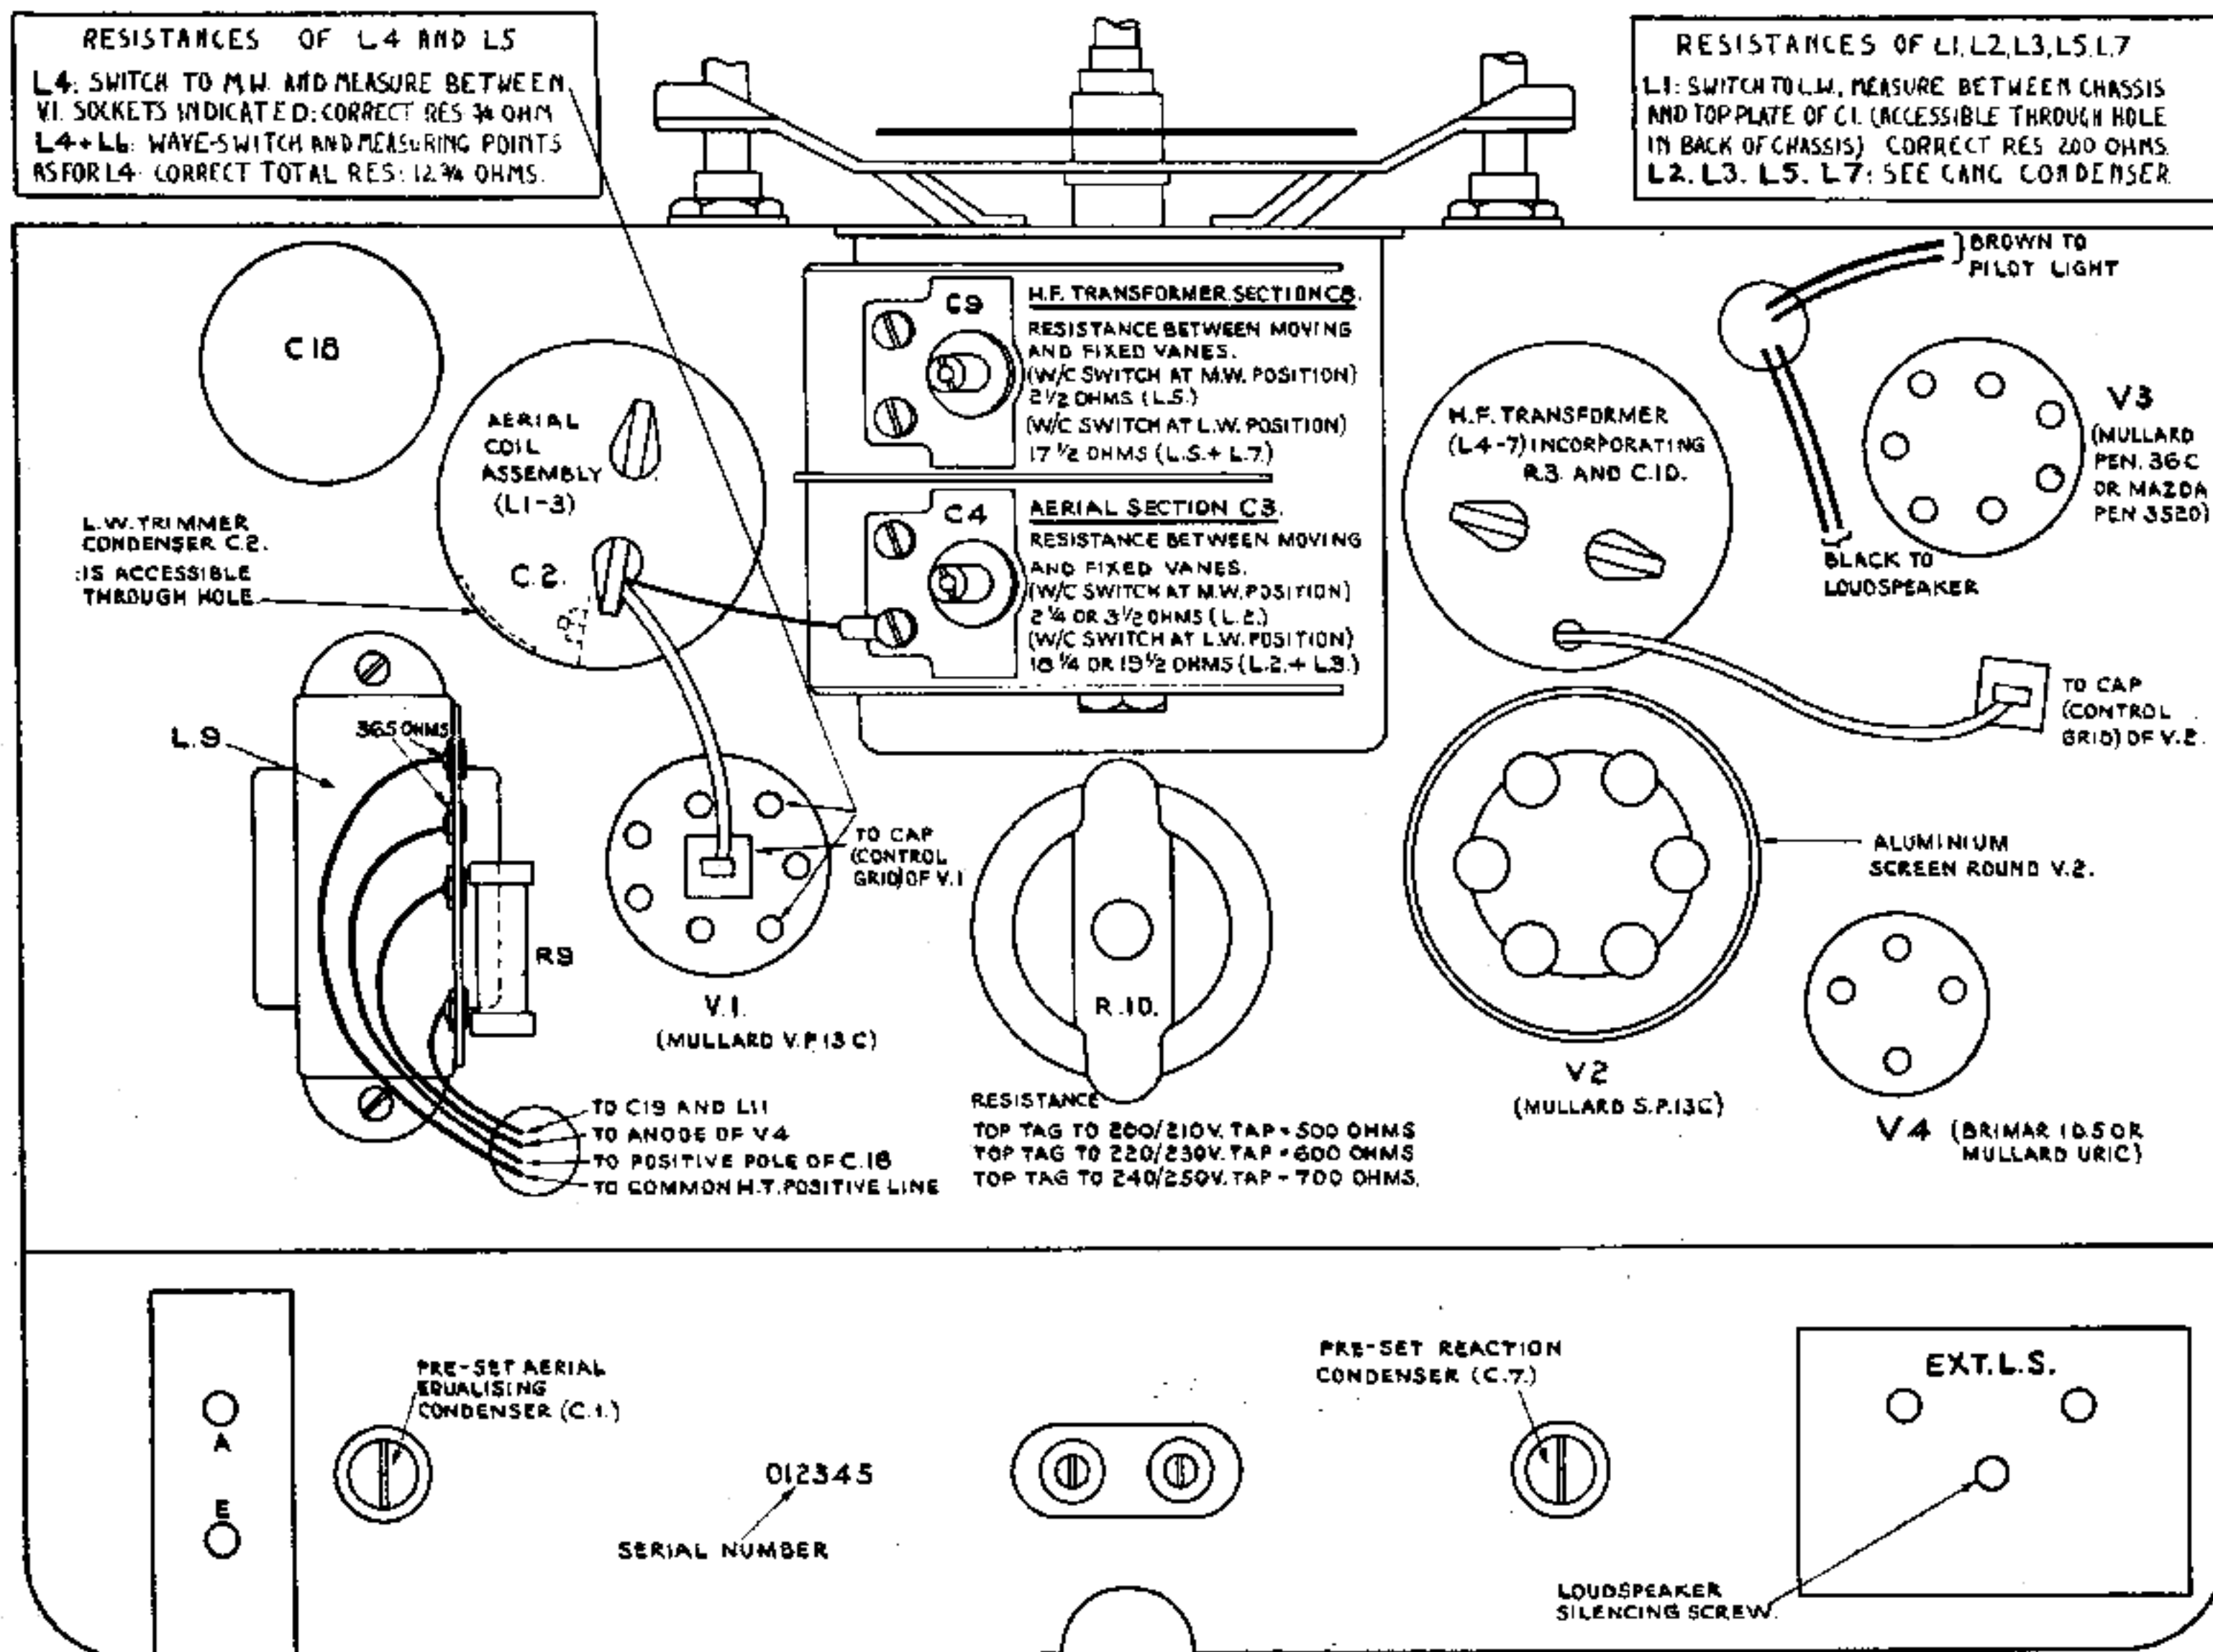

Fig. 1. Top view of chassis. All coil resistances are shown.
A proportion of the aerial capacity will always be transferred to the tuned circuit L2, C3-4 on the **M.W.** band and L2, L3, C2-4 on the L.W. band. It will be apparent that unless a method is provided of varying this capacity within suitable limits, the circuits mentioned may be thrown out of adjustment with the corresponding circuits C8-9, L5, L7. The desired variation is obtained by means of the pre-set condenser C1 (see Fig. 1) which, once adjusted for a particular aerial, should not be touched. Readjustment will, however, be necessary if the receiver is used on a different aerial.
This is at the back of the receiver (see Fig. 1) and, when unscrewed, breaks the speech coil circuit of the set speaker. The latter should not be silenced in this way, however, unless a moving coil loudspeaker with a speech coil impedance of 2-3 ohms is connected across the "Ext. L.S." sockets. This loudspeaker will not require a separate transformer.
5. Adjust the trimmer C9 (see Fig. 1) on the H.F. transformer section of the gang condenser for maximum reading on the output meter.
3. Adjust the long wave trimmer condenser C2 for maximum output, meanwhile "rocking" the tuning condenser slightly. C2 is mounted inside the aerial coil can (see Fig. 1).
* For resistances see Fig. 1.
If valves light up, check for H.T. between tag 2 of smoothing choke L9 (see Fig. 1) and chassis. No H.T. indicates a defective rectifier valve, defective mains resistance or R9 O.C.
If placing a finger on the top cap of V2 causes a loud "screech," however, showing that the L.F. section of the receiver is in order, it should be possible to make the receiver oscillate by gently screwing in the reaction condenser C7. As the receiver goes into oscillation a "plop" should be heard, while the voltage reading across the .0008 mfd. condenser C21 should increase from 80 to 90 volts (approximately). If the receiver will not oscillate on both wavebands check up the resistance of L5 and L7, measuring from the fixed vanes of C8 (see Fig. 1) and chassis. With wave-change switch in M.W. position the resistance reading should be $2\frac{1}{2}$ ohms and $17\frac{1}{2}$ ohms with switch in L.W. position. If in either position the resistance is negligible, the trimmer C9 is probably S.C. Ascertain whether signals can be received when the aerial is connected through a small condenser (.0001 mfd. or less) to the grid (top cap) of V1. If not, take voltage and current readings of V1. No anode voltage indicates L4, L6, R11 O.C., or C6 S.C. High anode voltage and low anode current point to a defective H.F. valve or no voltage on auxiliary grid, while absence of anode current indicates, unless V1 is faulty, an O.C. VR1 or R1. If the anode voltage is below normal, L2, L3 is O.C. or C5 S.C. In the latter case there will be no voltage on V1 cathode.
To check resistance of L2 and L3 measure between fixed vanes of C3 (see Fig. 1) and chassis. With the wave-change switch at the M.W. position the resistance should be $2\frac{1}{2}$ or $3\frac{1}{2}$ ohms while the resistance with the switch in the L.W. position should be $18\frac{1}{2}$ or $19\frac{1}{2}$ ohms.